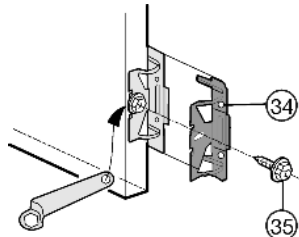

Fig. 11
- ▶ Screw all the mounting brackets *Fig. 11 (34)* to the pre-drilled holes in the appliance door using hexagon screws *Fig. 11 (35)*.
- ▶ fit a 3rd pair of mounting brackets Fig. 11 (34).